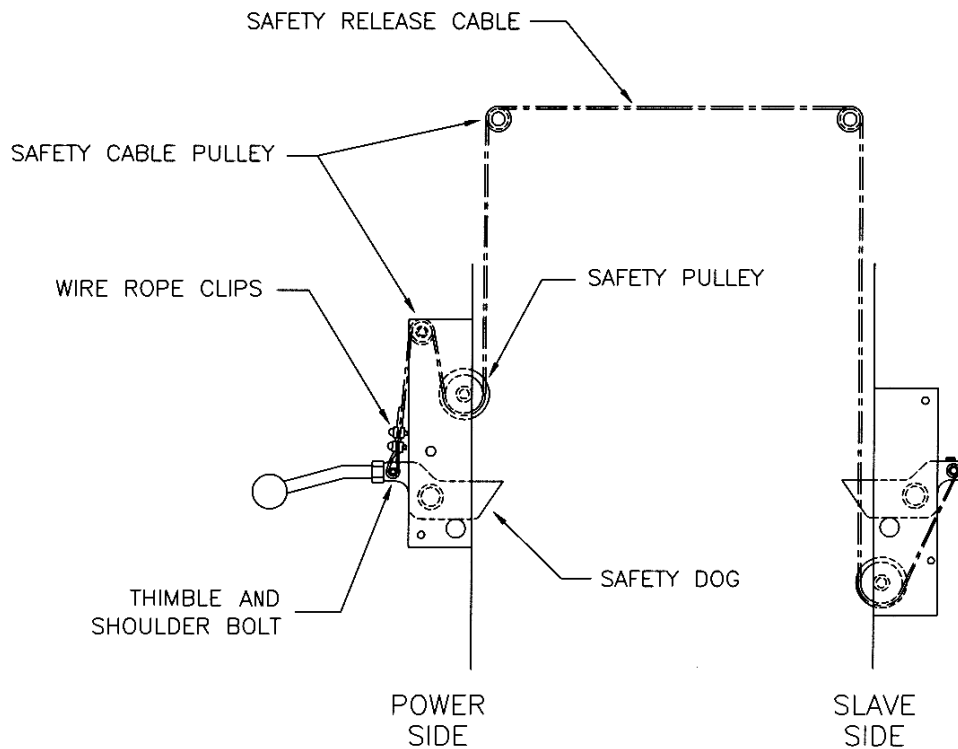

Figure 9 – Safety Release Routing and Adjustment
2. Refer to **Figure 9** for safety release cable routing. The end of the cable that has a collar attaches to the slave side tower. The free end is fixed to the power side tower using two (2) wire rope clips.
7. Guide the cable up under the large pulley and then over the small pulley towards the safety dog as shown in Figure 9. Wrap the cable around the thimble (attached to the safety dog with a 5/16" x 1/2" lg. shoulder bolt) and then clamp it using two (2) wire rope clips. Do not tighten fully at this stage.